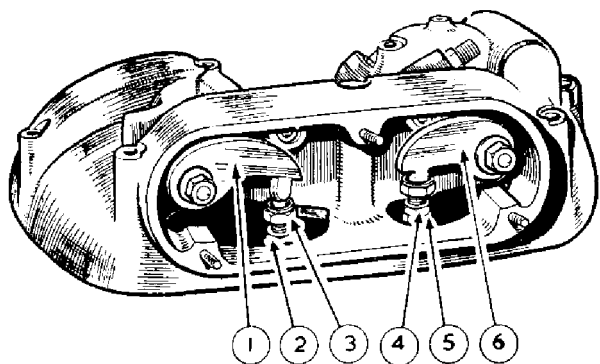

FIG. 12
Release the lock nut (2) (Fig. 12) holding the sleeve (5) with a second spanner. Move the adjusting screw (3) until there is no appreciable up and down movement, the push rod being just free to rotate by finger application. Securely tighten the lock nut when the correct adjustment is found.